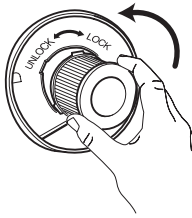

Fig. 20
5. Then twist the central laminar filter off the cover by turning it counter-clockwise (Fig. 20).